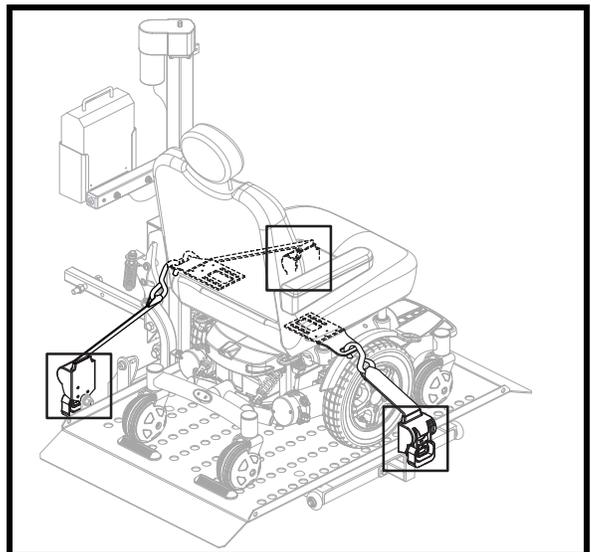

Figure 16. Retractable Tie-down Strap Securement
- Pull the strap out and secure it to the chair restraint tab. See figure 16.